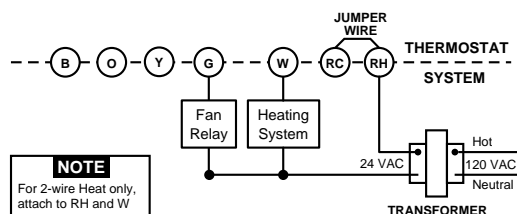

Figure 2. Typical wiring diagram for heat only, 3-wire, single transformer systems
2. Connect wires beneath terminal screws on base using appropriate wiring schematic (see figs. 2 through 7).